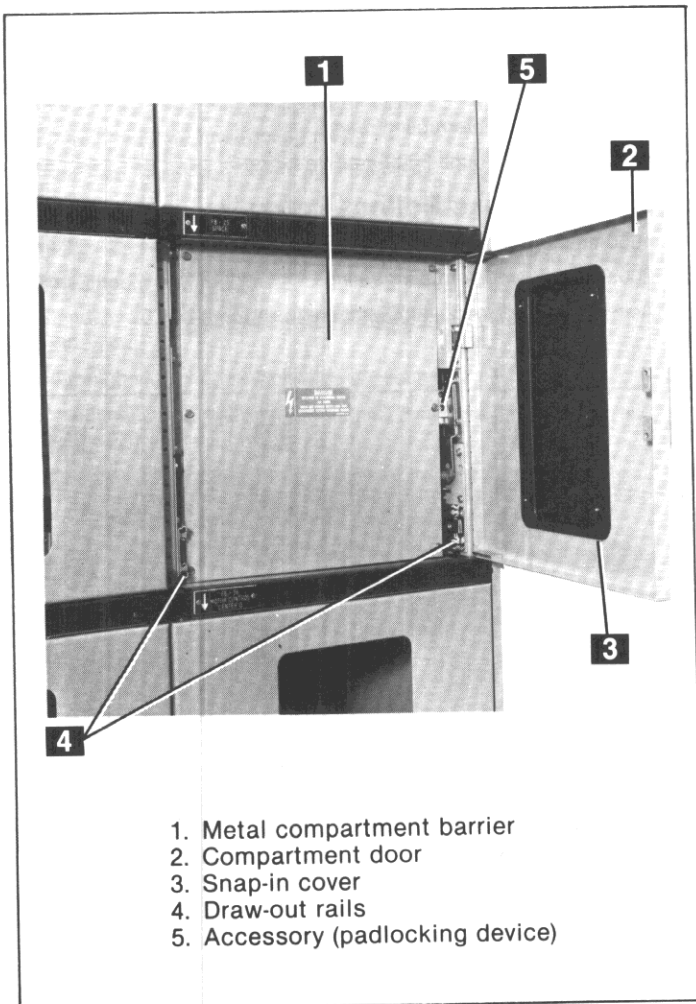

Fig. 3-18. Future breaker compartment
When specified, compartments may be supplied for future addition of circuit breaker elements. These compartments are fully equipped with racking tracks or trays, primary disconnects, and ancillary devices as required (i.e. secondary disconnects, accessory devices, etc.) The opening in the breaker compartment door (2), Fig. 3-18, is closed with a snap-in molded cover (3) and a metal barrier (1) is bolted across the face of the compartment to deter accidental contact with energized electrical circuits (i.e. primary disconnect stabs).